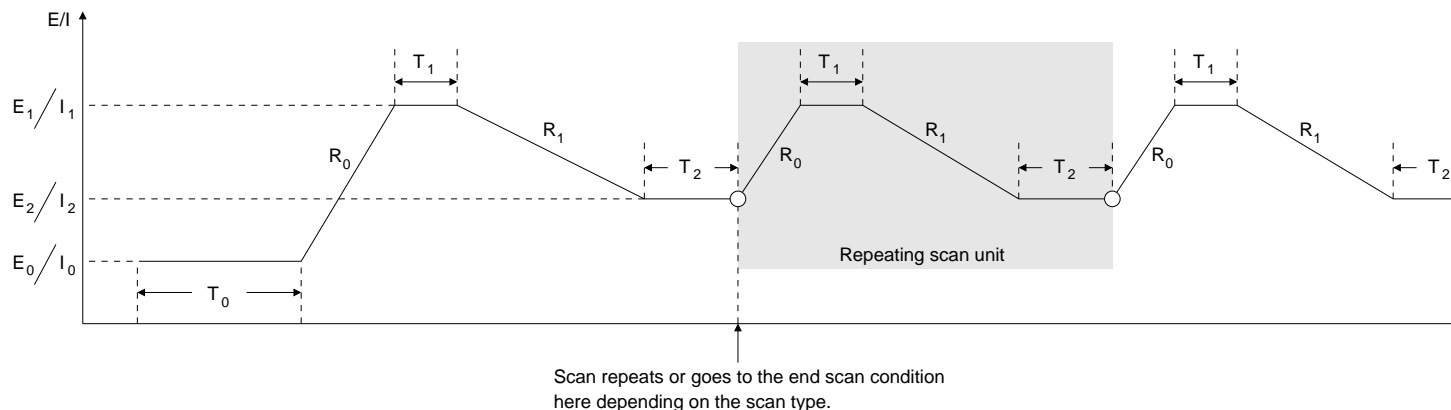

Figure 31: Parameters needed for the ramp generation commands.
The `i` parameter chooses the control point to set or query. The point values take mV values in potentiostat mode, and milli-fractions of the full scale current ( $I_{\text{range}}$ ) in galvanostat mode. As illustrated in figure 31, these values can be added to the baseline to form the finished waveform.
The `i` parameter chooses the control point to set or query. Figure 31 shows hold times  $T_0$  and  $T_1$  for points  $P_0$  and  $P_1$ .
**Description:** As illustrated in figure 31, there are three  $E/I$  vertex points needed to define a ramp waveform.
**Description:** As illustrated in figure 31, there are two ramp rates needed to define a ramp waveform.
**Description:** As illustrated in figure 31, there are three delay times needed to define a ramp waveform.
`rampen{x}`**Name:** `rampen` – End the ramp in progress.**Description:** This command will end a running ramp waveform without clearing the program.`rampcy(?) {x}`**Name:** `rampcy(?)` – Set or query the number of ramp cycles.**Description:** The “repeating scan unit” illustrated in figure 31 can be repeated a few times or forever. Use this command to set a finite number of repeats after disabling single scanning with `scantp 0`.